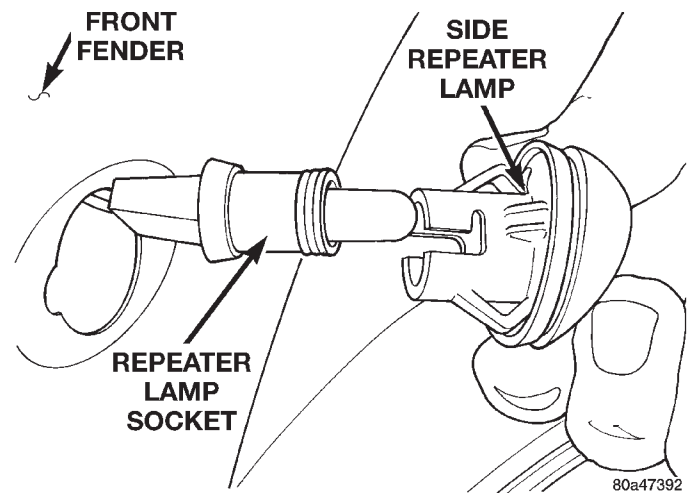

Fig. 7 Side Repeater Lamp Socket
- (3) Separate side repeater lamp socket from side repeater lamp (Fig. 7).
- (4) Rotate and pull bulb from socket.